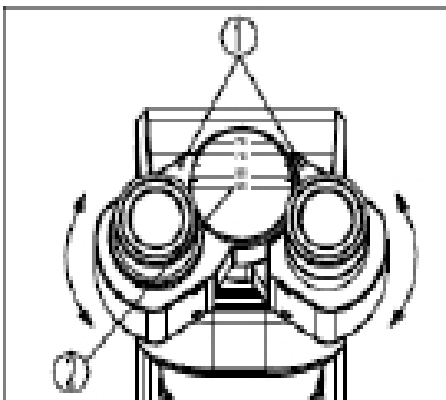

Fig. 13
Observe specimen through both eyepieces, hold the base of the eyepiece prism and rotate them around the axis to adjust the interpupillary distance, until there is single field of view. The dot “.” (1) on the eyepiece base points to the scale (2) of the interpupillary distance indicator. The scale value is the interpupillary distance (See Fig. 13). Adjustable range: 50~75mm.